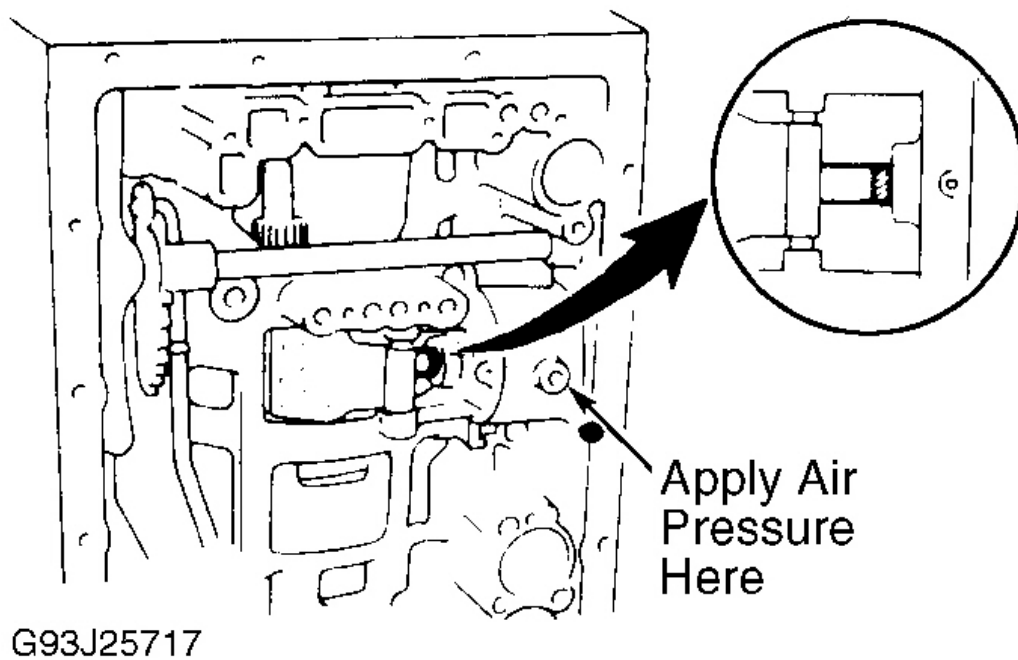

Fig. 17: Measuring 2nd Coast Brake Piston Stroke (Reference Mark)
8. Remove snap ring. Remove OD brake clutch pack flanges, plates and discs. Note number and location of all components. Place reference mark on 2nd coast brake piston rod. Apply 57-114 psi (4.8 kg/cm²) of air at opening of transmission case. Using wire gauge, measure clearance between reference mark and case. See **Fig. 17** -17. Stroke should be .059-.118" (1.49-3.00 mm). If stroke is not within specification, inspect brake band.